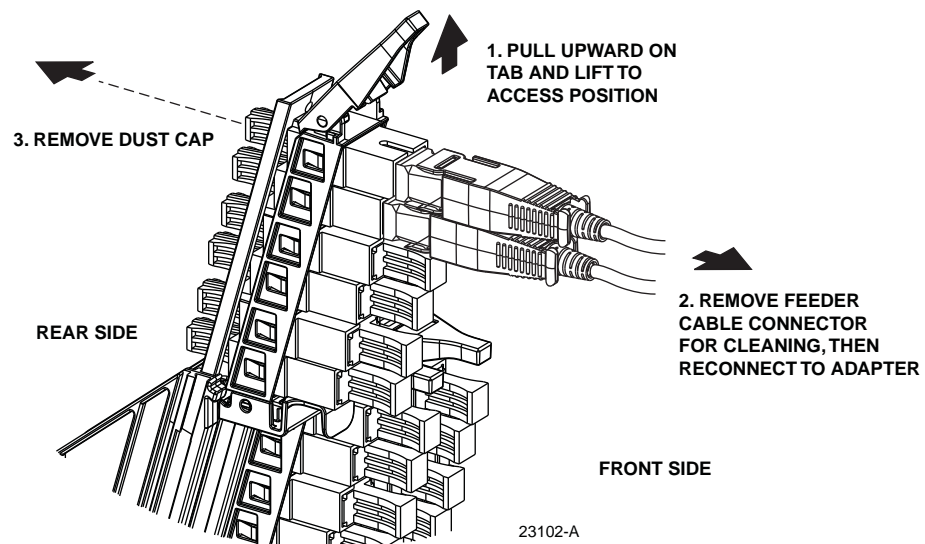

Figure 31. Typical Adapter Pack Raised to Access Position
2. Pull upward on the small tab on top of the adapter pack and lift the adapter pack to the position shown in Figure 31
3. Pull upward on the small tab on top of the adapter pack and lift the adapter pack to the position shown in Figure 31